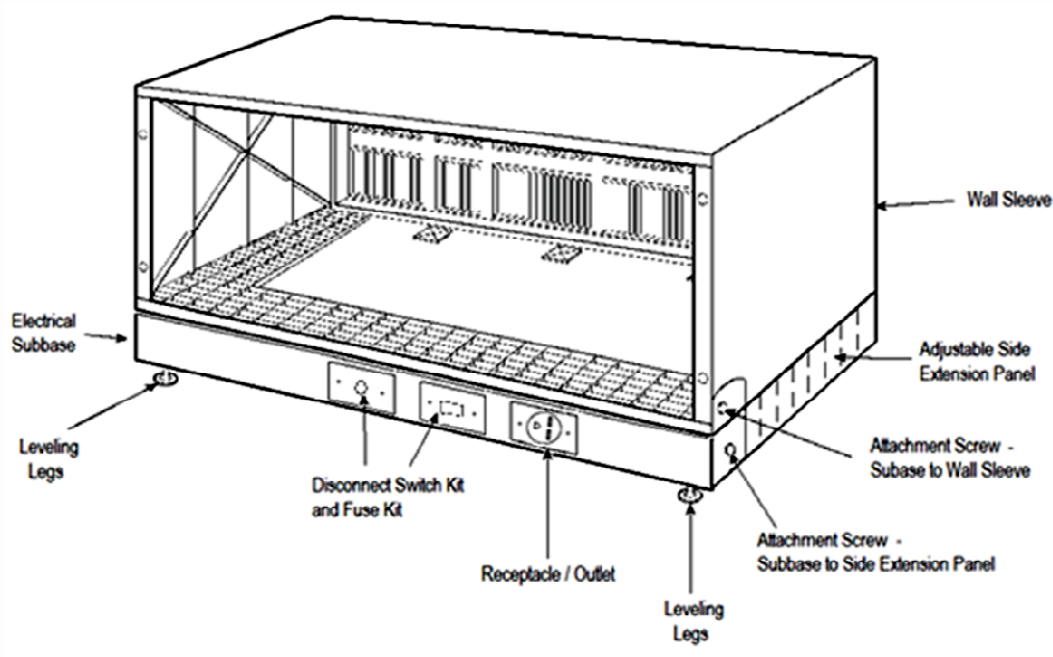

Figure 11 – Attach Subbase to Wall Sleeve
Step 9 — Install subbase on PTAC wall sleeve per the installation instructions for a non electric subbase. See figure 11 for a completed installation.